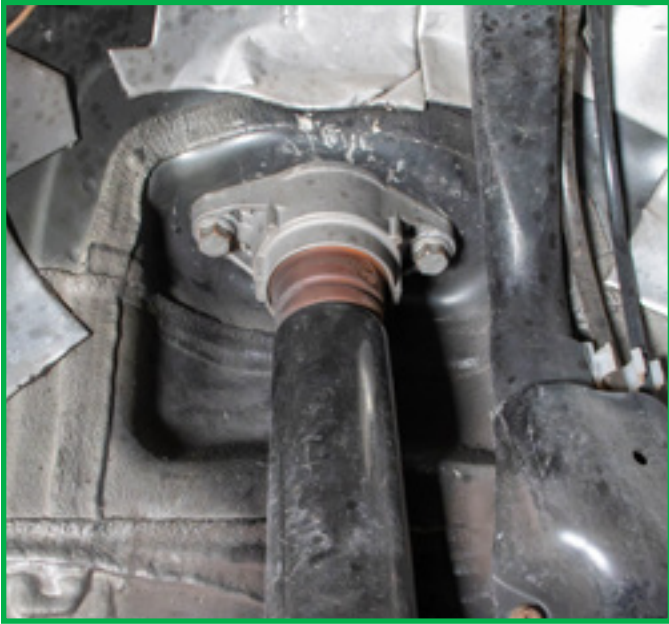

FIGURE 13
11. Remove the two (2) upper mount bolts. (Figures 13, 14)